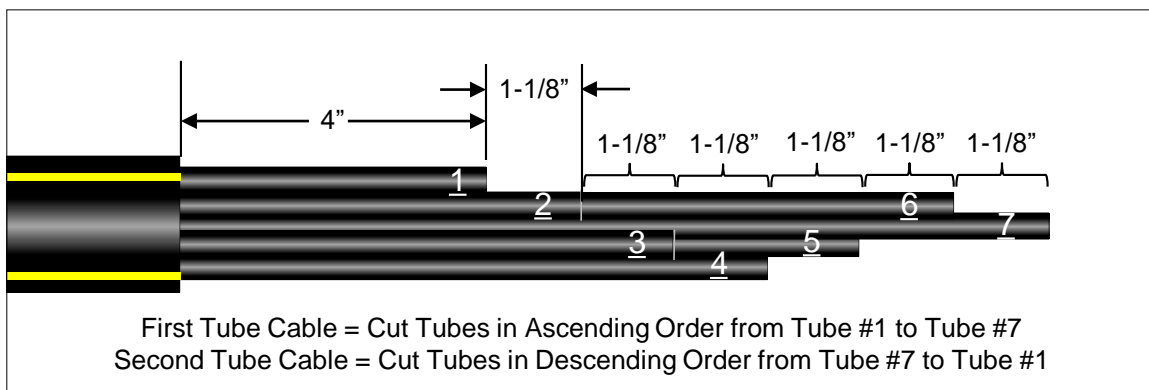

Figure 5
7.3 On first tube cable, locate Tube #1. Measure 4” in from stripped end of tube cable jacket and mark Tube #1. Use Tubing Cutter (BETC001) to cut Tube #1 at this mark. **See Fig. 5.**
7.4 Locate Tube #2. Measure 1-1/8” from the previous cut tube (Tube #1) and mark Tube #2. Use Tubing Cutter (BETC001) to cut Tube #2 at this mark. **Refer to Fig. 5.**
7.7 On second tube cable, locate Tube #7. Measure 4” in from stripped end of tube cable jacket and mark Tube #7. Use Tubing Cutter (BETC001) to cut Tube #7 at this mark. **Refer to Fig. 5.**
7.8 Locate Tube #6. Measure 1-1/8” from the previous cut tube (Tube #7) and mark Tube #6. Use Tubing Cutter (BETC001) to cut Tube #6 at this mark. **Refer to Fig. 5.**